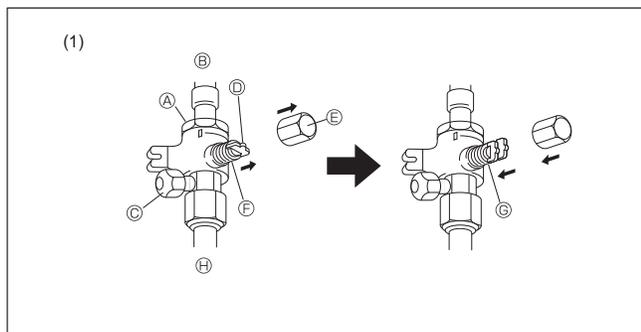
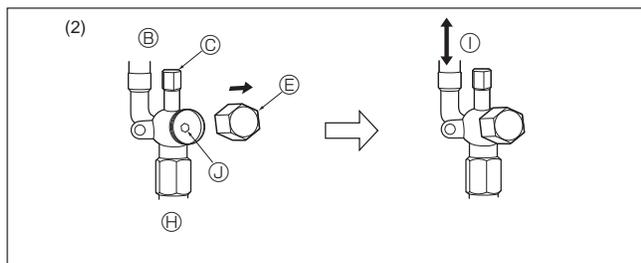

Fig. 4-7
Fig. 4-8
(1) Gas side (Fig. 4-7)
- ① Remove the cap, pull the handle toward you and rotate 1/4 turn in a counterclockwise direction to open.
- ② Make sure that the stop valve is open completely, push in the handle and rotate the cap back to its original position.
(2) Liquid side (Fig. 4-8)
- ① Remove the cap and turn the valve rod counterclockwise as far as it will go with the use of a 4 mm [3/16"] hexagonal wrench. Stop turning when it hits the stopper.
- ② Make sure that the stop valve is open completely and rotate the cap back to its original position.